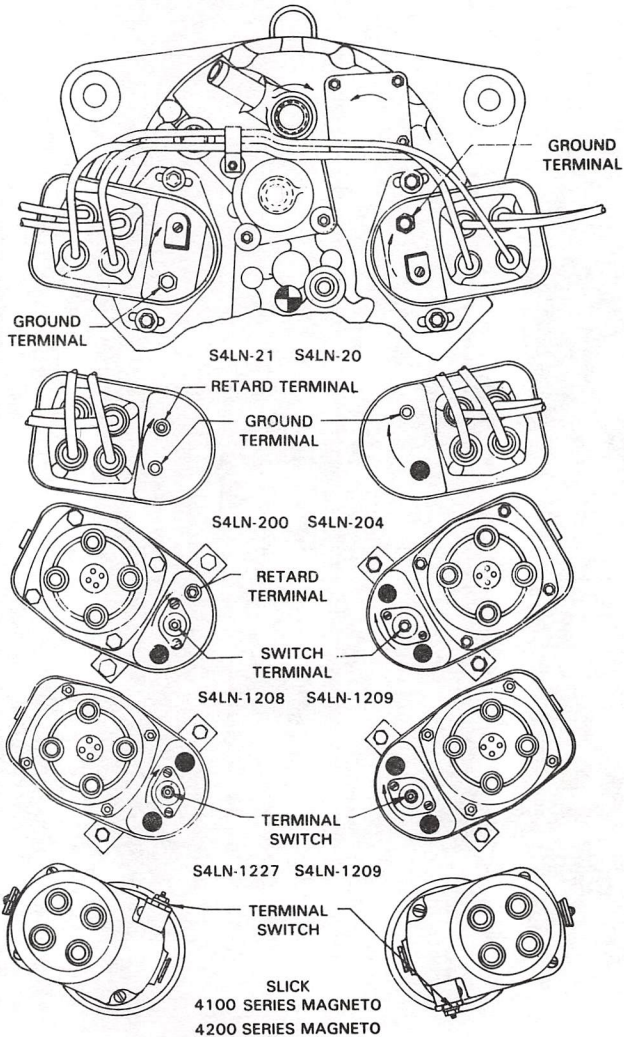

Figure 7-2. Magneto Connections
** SEE FIG. 7-2 FOR MAGNETO CONNECTIONS